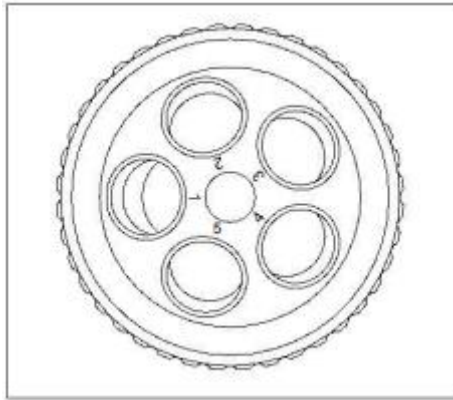

Figure 5
1. When installing the objectives, align the 4X, 10X, 20X, 40X, and 100X objectives with the corresponding nosepiece holes labeled 1, 2, 3, 4, and 5. (See Fig. 5).